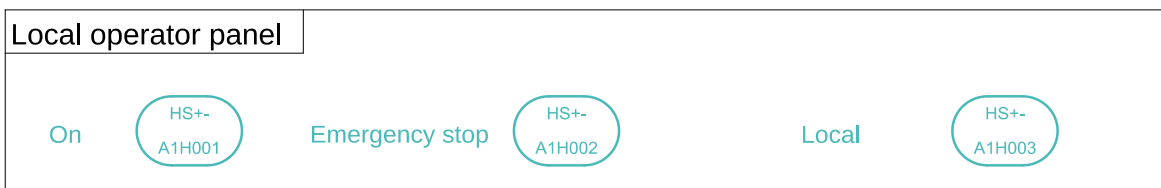

Figure 6: Excerpt from the local operator station
7. Next, create CFCs for the main switch, the EMERGENCY OFF switch and the switch for local operation. For this, one CFC each is created for A1H001, A1H002 and A1H003 like in task 6 in the chart folder 'Multipurpose plant' (see also Figure 6). The 'Pcs7DiIn' block is added, named, and interconnected with the respective address to 'PV\_In'.